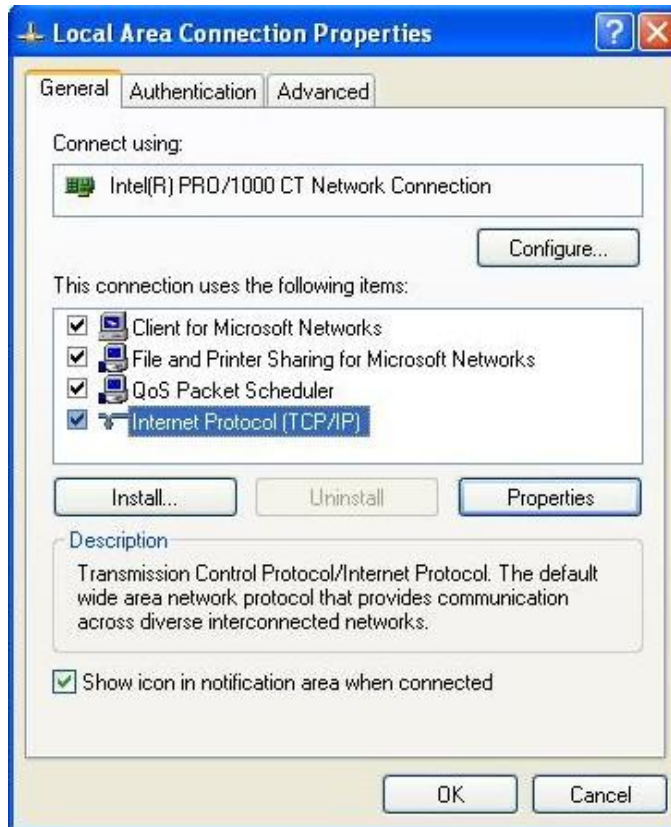

Figure 20: Local Area Connection Properties Window
6. Select **Internet Protocol (TCP/IP)** in the **General** panel and click on the **Properties** icon under it (refer to Figure 20).